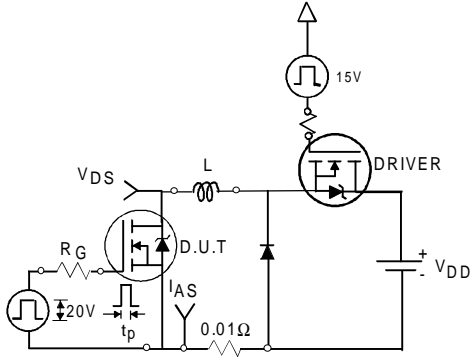

Fig 12a. Unclamped Inductive Test Circuit
3. Equation below based on circuit and waveforms shown in Figures 12a, 12b.
- ③ $I_{SD} \leq 101\text{A}$, $di/dt \leq 210\text{A}/\mu\text{s}$, $V_{DD} \leq V_{(BR)DSS}$, $T_J \leq 175^\circ\text{C}$
- ④ Pulse width $\leq 400\mu\text{s}$; duty cycle $\leq 2\%$.
- ⑤ C_{OSS} eff. is a fixed capacitance that gives the same charging time as C_{OSS} while V_{DS} is rising from 0 to 80% V_{DSS} .
- ⑥ Calculated continuous current based on maximum allowable junction temperature. Package limitation current is 75A.
- ⑦ Limited by T_{Jmax} , see Fig.12a, 12b, 15, 16 for typical repetitive avalanche performance.
- ⑧ This is applied to D²Pak, when mounted on 1" square PCB (FR-4 or G-10 Material). For recommended footprint and soldering techniques refer to application note #AN-994.